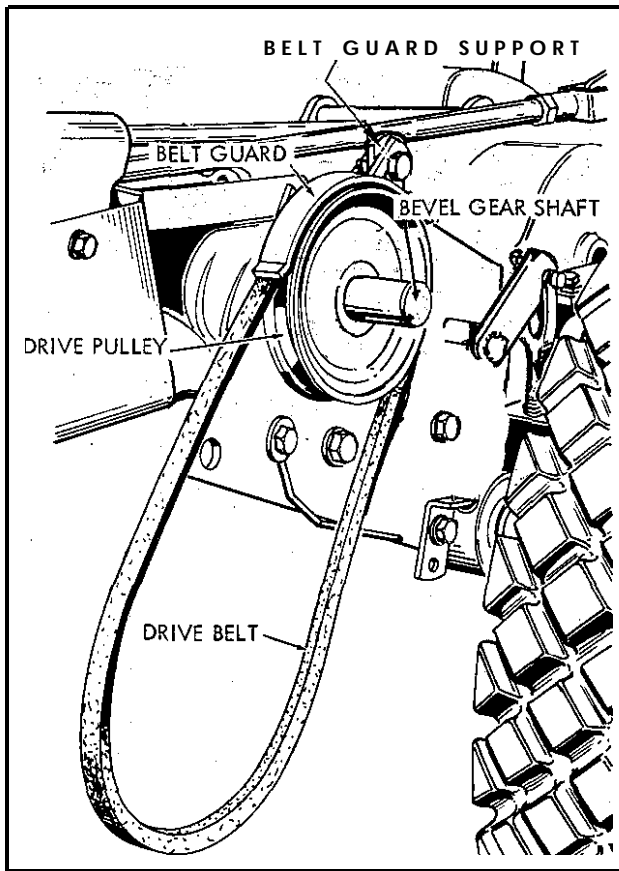
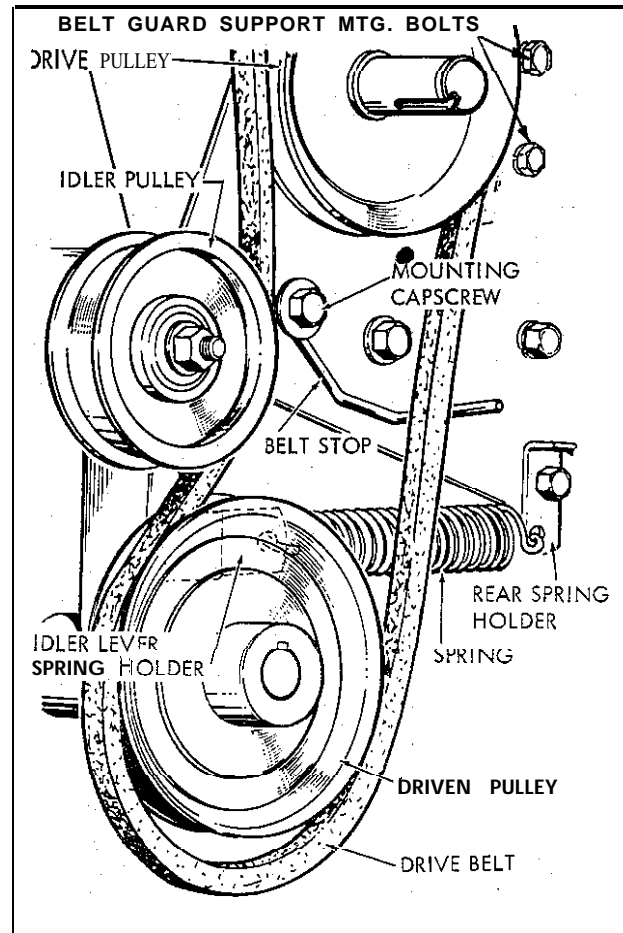

Fig. 1
Fig. 5
1. Mount "V" pulley to shaft of bevel gear assembly ( see figure 1 ) and secure in place with key and set screw. Hub of "V" pulley is to face inward. Place drive belt on "V" pulley and mount belt guard support to inside surface of side plate nearest drive pulley. See figure 5 for mounting bolt location. Attach the belt guard to the guard support as shown in figure 1. Allow approximately  $\frac{3}{16}$ " clearance between belt and guard.
5. Mount "V" belt in place on driven pulley as shown in figure 5 and attach spring to bottom hole in the spring holder and hook other end of the spring to the idler lever spring holder. Mount belt stop as shown with  $\frac{3}{8}$ " bolt, flat washer, lockwasher and hex nut. When idler pulley is engaged,  $\frac{1}{8}$ " clearance between belt stop and back of "V" belt is required. Note: "V" belt runs under idler pulley. See figure 5.